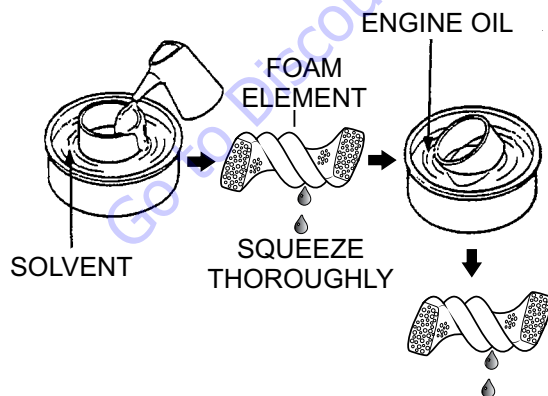

Figure 28. Foam Element
2. Clean the foam element (Figure 28) in warm, soapy water or non-flammable solvent. Rinse and dry thoroughly.
3. Dip the element in clean engine oil and completely squeeze out the excess oil from the element (Figure 28).